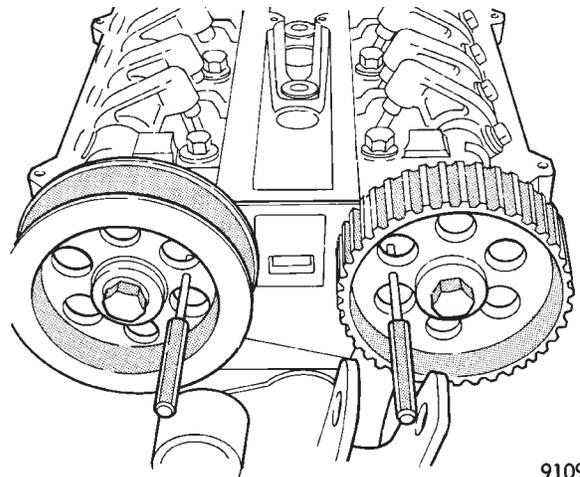

Fig. 9 Camshafts Pinned into Position
- (4) Align and pin both intake and exhaust cam sprockets with 3/32 drills or pin punches (Fig. 9). **Accessory Shaft does not need to be timed.**
- (5) Remove spark plugs.